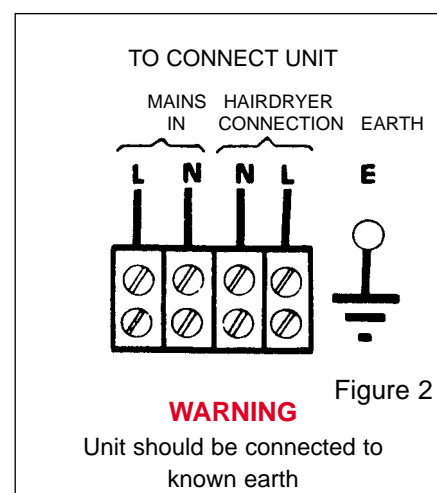

Figure 2
6. Using a 5 Amp fused double pole switch for the mains input, wire the hairdryer unit as shown in Figure 2. The use of 20mm conduit is recommended (use male thread adaptor with lock ring eg. Ega type EMA 12M). Alternatively fit a 20mm nylon compression cable gland to provide strain relief.